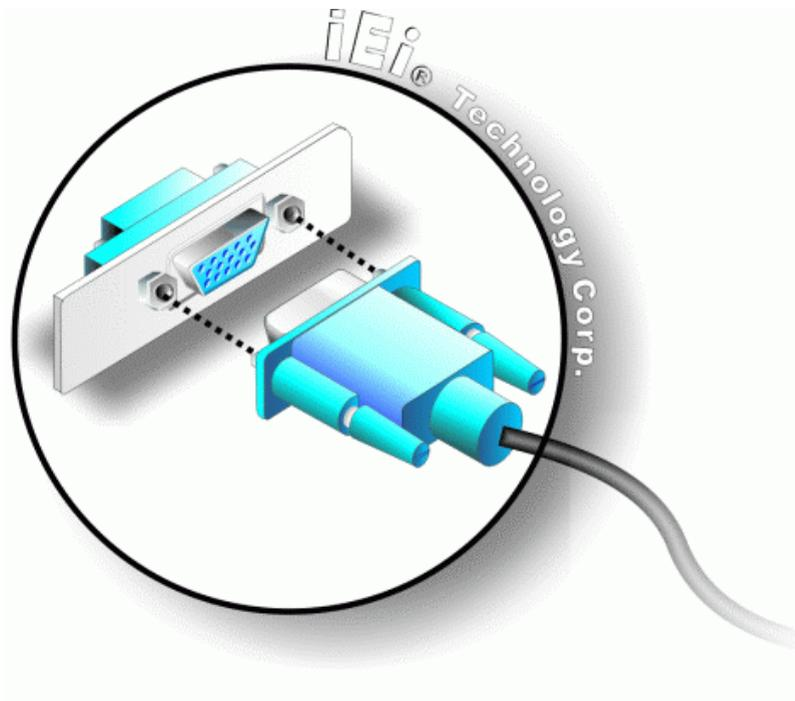

Figure 5-14: VGA Connector
- Step 3: Insert the VGA connector** Once the connectors are properly aligned with the insert the male connector from the VGA screen into the female connector on the IOWA-MARK. See **Figure 5-14**.